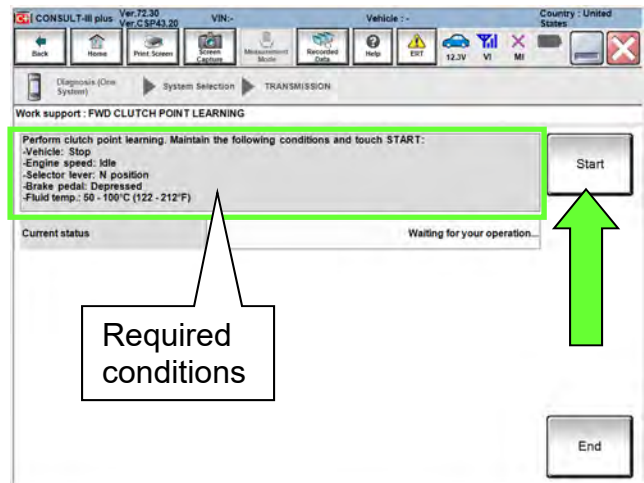

Figure 43
53. With the engine still running and at idle, depress the brake pedal and shift the CVT into neutral (N).
- Confirm that all of the required conditions indicated in Figure 43 are being met.
55. While maintaining all conditions shown in Figure 43 and the “Current status” indicates “EXECUTING”, shift the CVT into **D** and then wait until the Current status indicates “COMPLETED”.